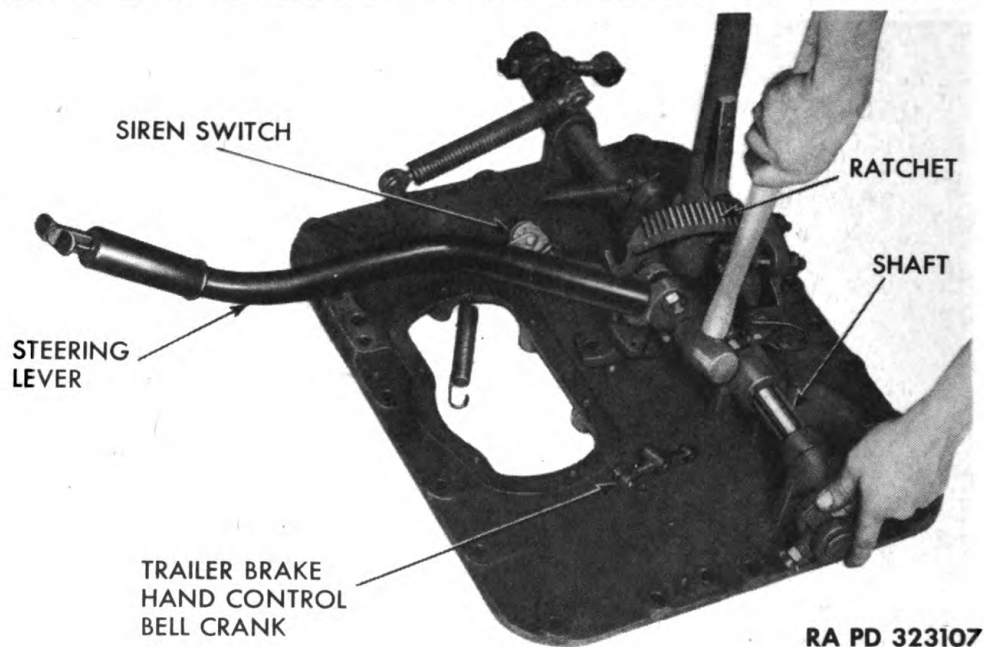

Figure 108 — Removing Steering Lever
d. Remove Steering Levers and Shafts. Loosen nut on cap screw in either shaft (fig. 108). Remove steering lever ratchet. Remove Woodruff key from end of shaft. Pull shaft out of bushings and power cylinder eye bolt. Remove opposite lever and shaft in same manner.
b. **Steering Levers and Shafts.** Place two washers on each shaft, and install left and right steering lever shafts through bushings in cover. Install electric brake controller power cylinder eye bolt between bushing brackets on right shaft. Drive Woodruff key into slot in each shaft. Drive steering lever hubs onto shafts. Before second steering lever is driven onto shaft, place ratchet in position (fig. 108). Install steering lever return spring clip on cap screw; install cap screw, lock washer, and nut in steering lever hub. Place trailer brake hand control bell crank on shaft in ratchet, and install cotter pin. Secure ratchet to cover with two cap screws and lock washers. Insert trailer brake control wire in fastening bolt, tighten nut on bolt, and insert cotter pin. The stop screw under end of bell crank must be $\frac{3}{4}$ inch from top head to face on ratchet. Bell crank must rest on stop screw after control wire is attached. Attach siren switch to ratchet with two screws and lock washers. Place siren switch clamp on switch lever, and insert control wire through bolt. Tighten nut on bolt, and insert cotter pin. After